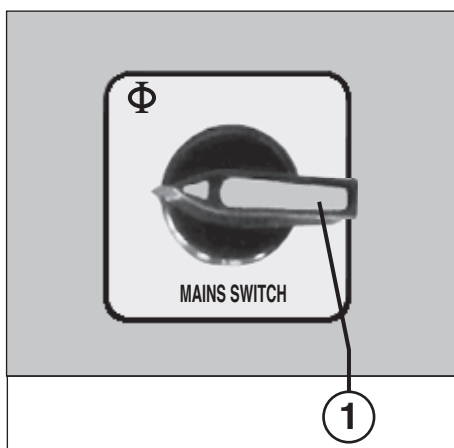
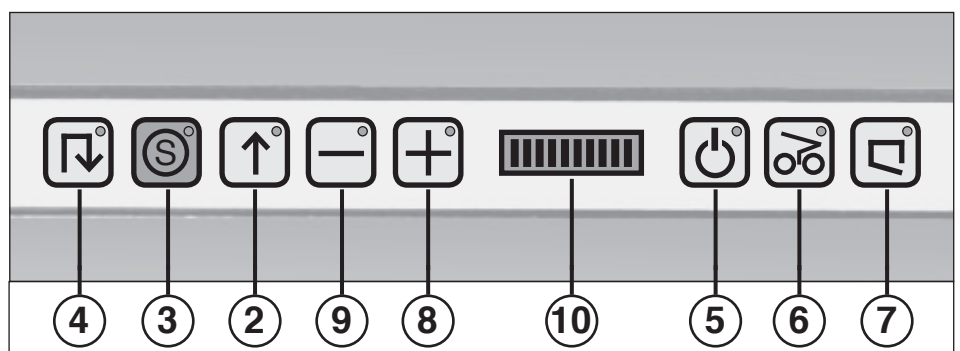

Fig. 1
Fig. 2
To start, switch on the unit by operating the main switch (1) (fig. 1). The pilot lamp marked „ready for operation“ (5), as well as the red stop-button „S“ (3) (fig. 2) will light to indicate that the machine is ready for operation.
2. Press the pushbutton switch „forward“ (2) (fig. 2). The cutting system runs and begins to shred the paper.
3. To switch the machine off press the red stop-button (3) (fig. 2).
1. The cutting system becomes jammed. The pilot lamp (6) (fig. 2) lights up.
- Press the vario-speed plus key (8) (fig. 2), in order to increase working speed.
- Press the vario-speed minus key (9) (fig. 2), in order to decrease working speed, and to allow for increased cutting capacity.
Current cutting speed is indicated at the vario-speed display (10) (fig. 2).
When the collecting bag is full, the machine turns off automatically. The pilot lamp (7) (fig. 2) lights up. Empty the collecting bag as follows:
- Mettre la machine pour un court instant en marche arrière (touche (4) (fig. 2). Le matériel se dégage.
- Soulevez la goulotte un peu. Le voyant de contrôle „porte ouverte“ à savoir „goulotte relevée“ (7) (fig. 2) s'allume.
L'appareil est équipé d'un moteur à protection thermique. Il s'arrête dès qu'il y a un surchargement. En ce cas, la petite lampe indiquant „prête à fonctionner“ (5) (fig. 2) s'allume.